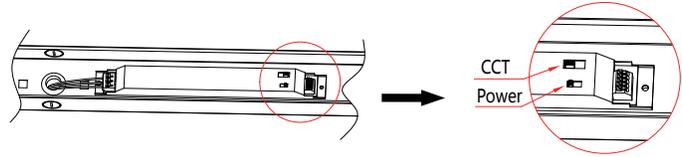

Fig. 38
2. Select your desired power and colour temperature settings using the switch on the driver (Fig. 38).